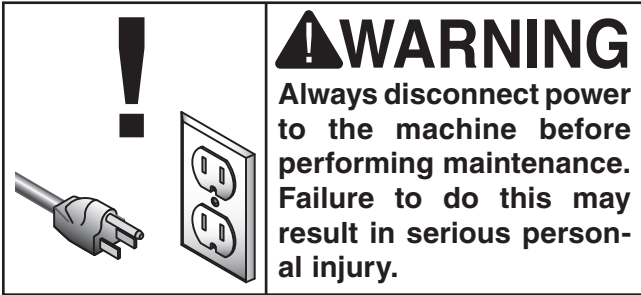

Figure 26. Cutting the shoulder.
3. Clamp a stop block to the fence face before the saw blade (**Figure 26**) and adjust the fence to cut the structural shoulder. Remember, take into account the thickness of the blade.
5. Turn the saw **ON**, and carefully and slowly push the miter gauge to cut the structural shoulder as shown in **Figure 26**.